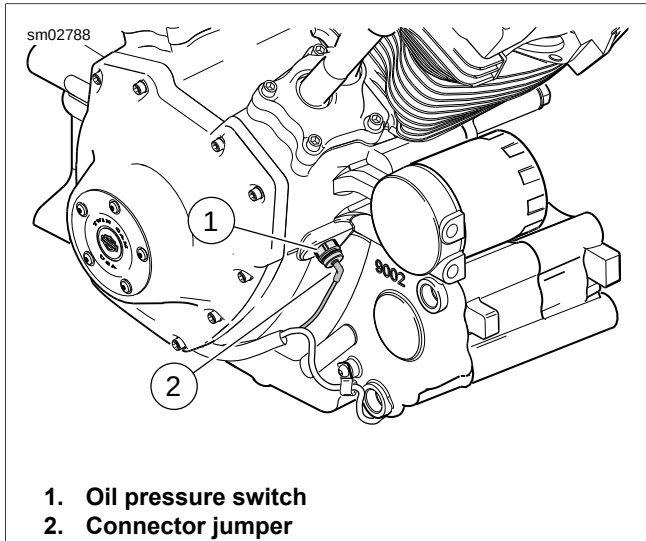

Figure 7-98. Oil Pressure Switch
See Figure 7-98. The oil pressure switch monitors oil pressure in the crankcase. If the oil pressure drops below 3 psi (20.6 kPa), the oil pressure switch is tripped and illuminates the low oil pressure indicator light. The oil pressure switch is located on the right side of the crankcase.
1. See Figure 7-98. Remove connector (2) from oil pressure switch (1).
2. See Figure 7-98. Install oil pressure switch (1) to crankcase. Tighten to 96-144 in-lbs (10.8-16.3 Nm).
3. Attach connector (2) to oil pressure switch.